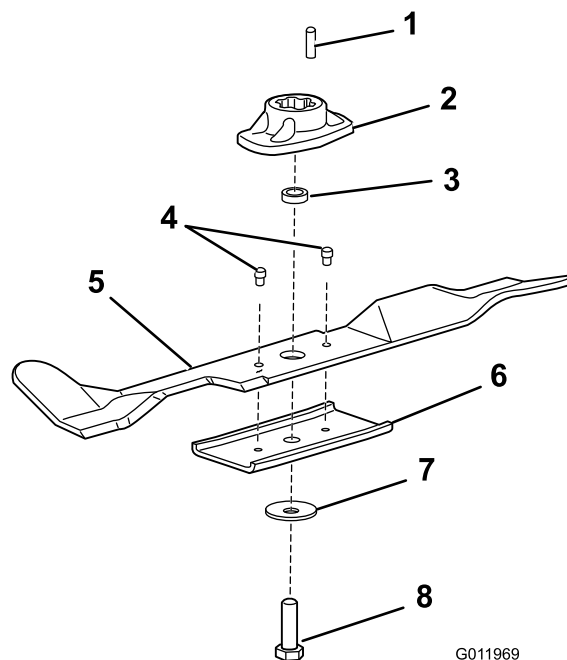

Figure 1
1. Install the keys, new spacers, shear pins, bagging blades, new blade stiffeners, new washers, and blade bolts (Figure 1).